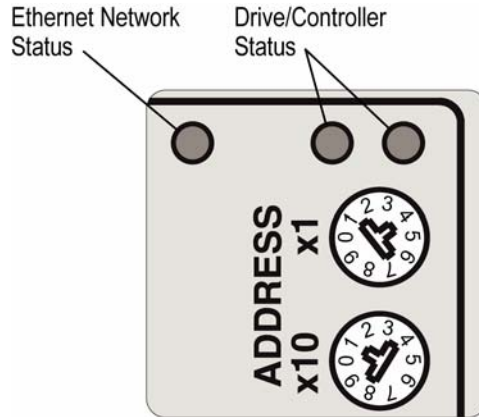

Figure 36 Ethernet Network and Drive/Controller Status LEDs
Check the status LEDs (Figure 36).
1. Cycle power to the unit and observe the right and left Status Indicator LEDs and the Ethernet Status LED. (See Figure 36 for LED locations.)